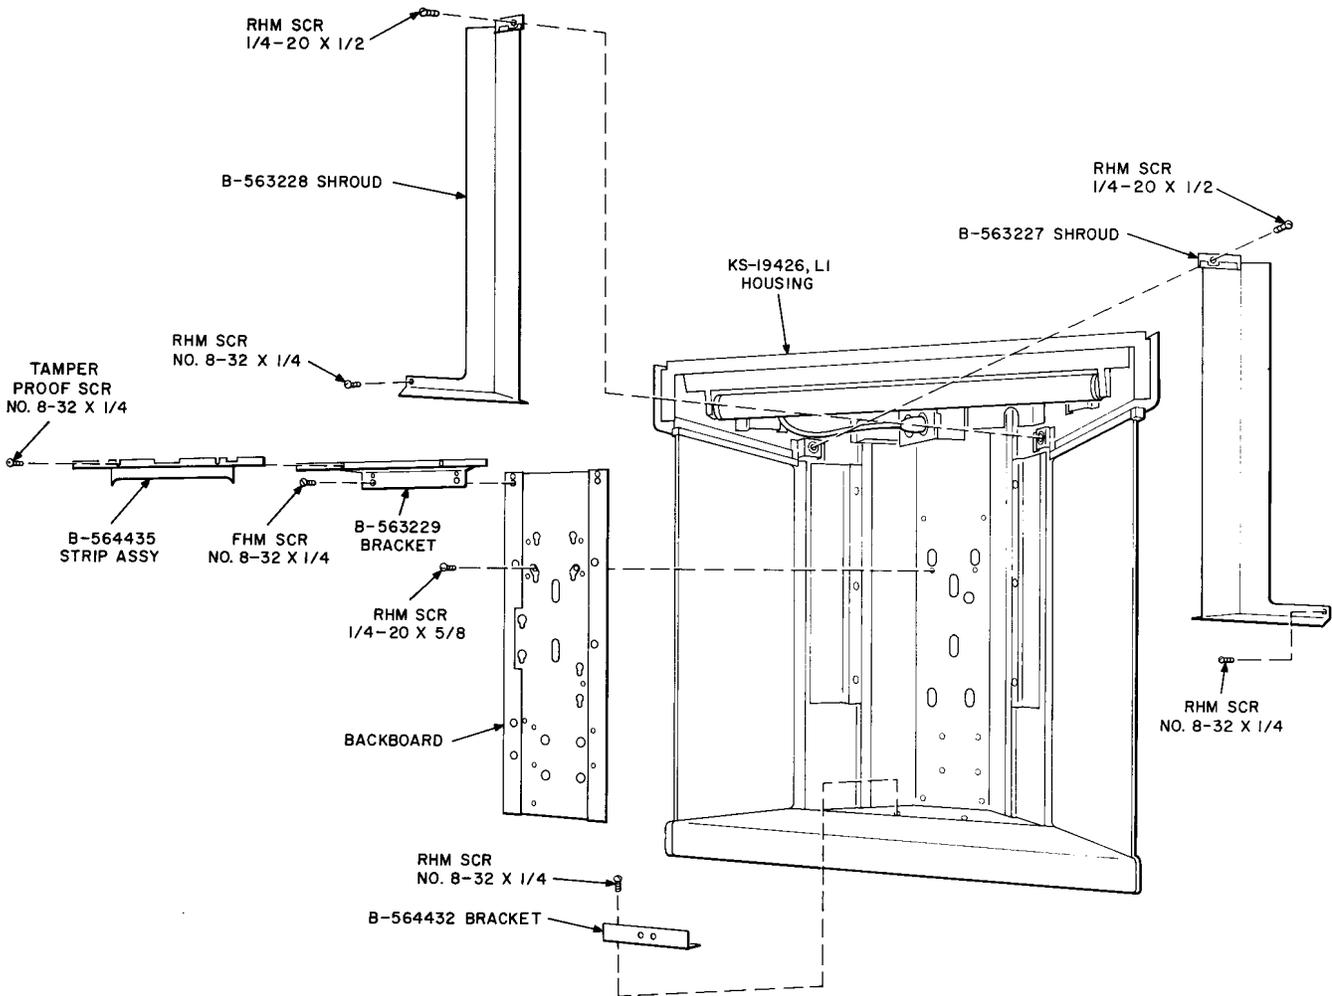

Fig. 8—KS-19426, L1 Installation Kit
2.11 List 7 Installation Kit: If 1A/1C-type coin telephone set is used, install KS-19426, List 7 installation kit (Fig. 8) as outlined in the following: